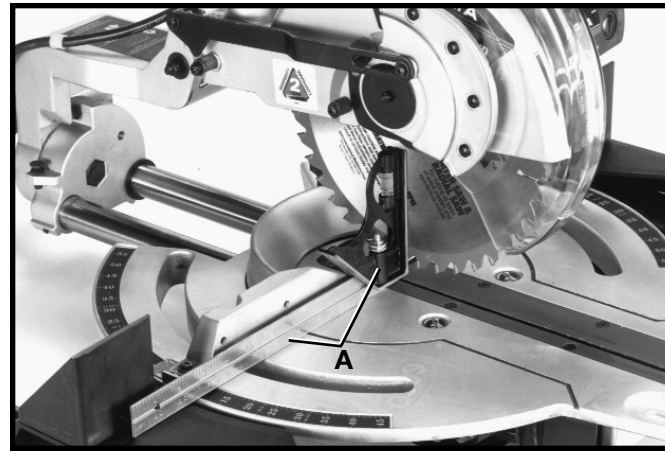

Fig. 44
3. Using a square (A) Fig. 44, place one end of the square on the table and the other end against the blade, as shown. Check to see if the blade is at 90 degrees to the table.